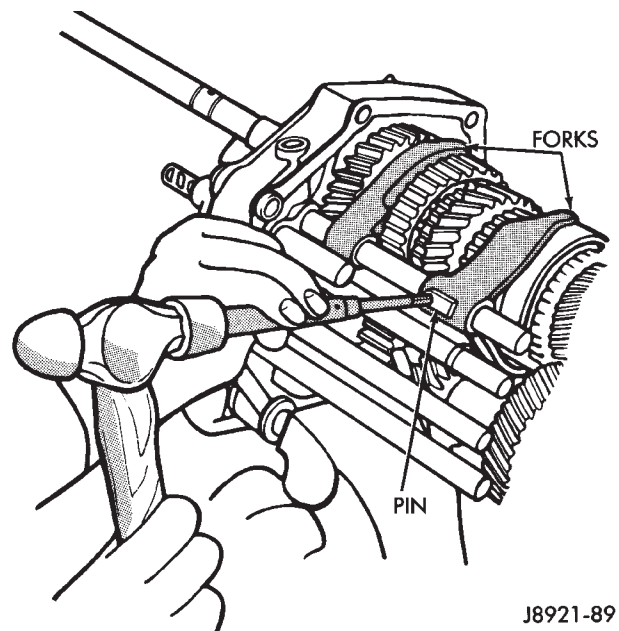

Fig. 89 Installing Shift Fork Pins
(18) Check interlock operation as follows: Move No. 1 shift rail rearward to first gear position. Interlock operation is OK if remaining shift rails did not move.
(19) Install new shift fork pins (Fig. 89).